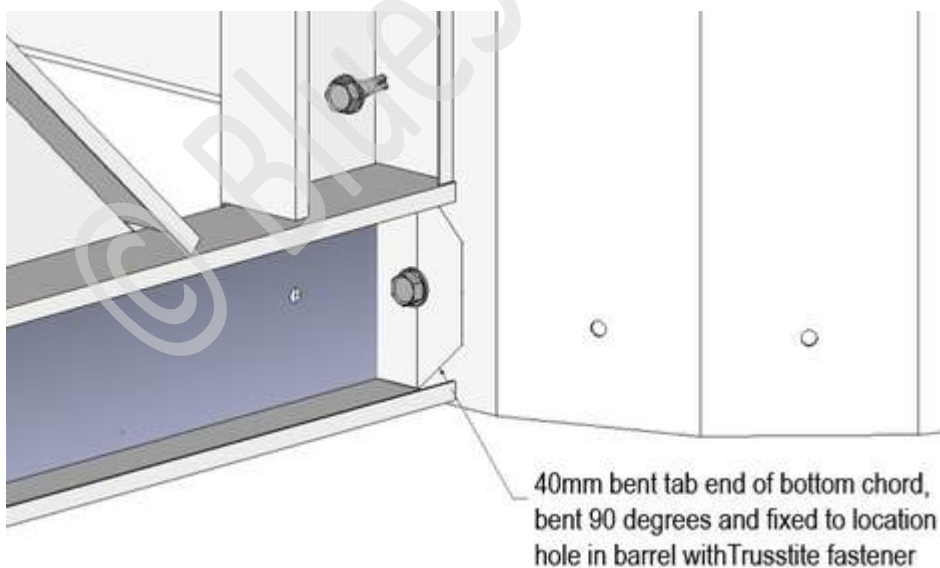

Figure 7.71 Bend tab at end of half truss to locate the bottom chord onto a pre-punched hole in the barrel
Step 7: The Hip trusses (noted as the primary trusses) are next. Lift and place as per set out. Most commonly these hips run over the corners of the building. They are to be attached at the wall frame as per **Figures 7.24** and **7.26**. Depending upon the wind, dead load and span fixings needed. At the barrel end of the hip (primary) trusses, the bottom chord has a tab extending 40mm past the vertical chord. This is manually bent 90 degrees so the 6mm locating hole can be used to align the bottom of the truss to pre-punched holes in the barrel to get the correct height. The top chord on the other hand extends and runs over the barrel to give a more complete hip line and for battens to connect to. Half trusses are connected onto the face of the barrels with an additional 4x12-14x20 hex head fasteners as per **Figure 7.71** and **7.72**. Or If not using the Trusstite use 5x12-14x20 hex head fasteners. The load from the half truss is transferred to the barrel with these fasteners.